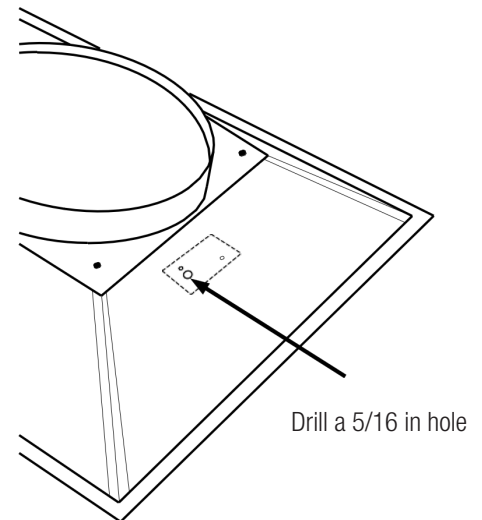

Fig. 1
2. Drill a 5/16in hole in the top of the backpan on the same side as the thermostat (see Figures 1 and 2).